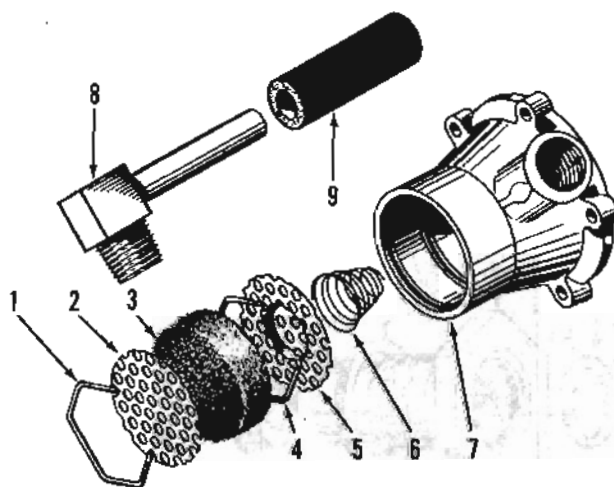

FIG. 41
**Valve Cover and Diaphragm**—Install the poppet return spring (6, Fig. 41) with the small end down over the end of the poppet, and center the retainer (5) in the large coil of the spring. Install the snap ring (4) in the control valve cover. Install the new hair filter (3), screen (2), and outer snap ring (1).